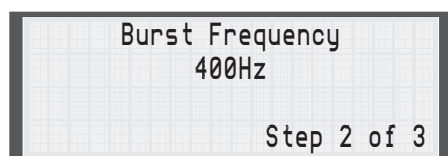

Fig. 2.29
6. Use the Arrow keys to set the burst frequency (**Fig. 2.29**), then press the Enter key.